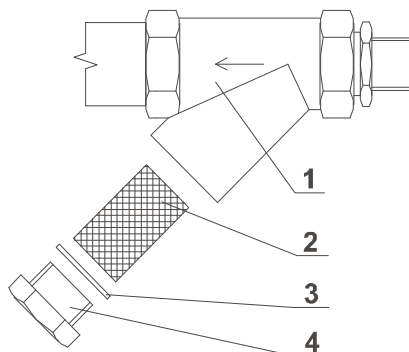

Figure 5.10.
2. Unscrew the filter plug (figure 5.10., pos.4) and remove the filter sieve (2).
4. Put the sieve (2) and gasket (3) back to the filter body (1) and tighten the plug (4).